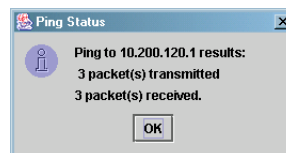

Figure 6-34. Ping Status Dialog Box
6. Click **Start Testing**. The packet being sent is displayed in the bottom left-hand side of the screen. When the test is complete, the **Ping Status** dialog box displays (see figure 6-34).